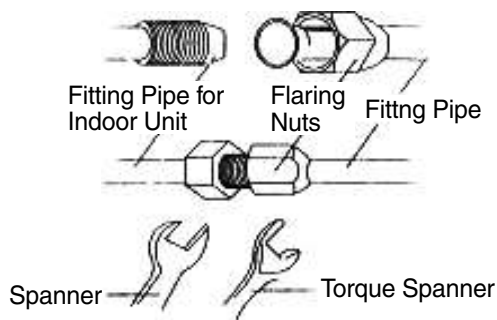

Fig.9.12
2. Use torque spanner to tighten the flared end nut until the spanner clatters (Fig. 9.12).